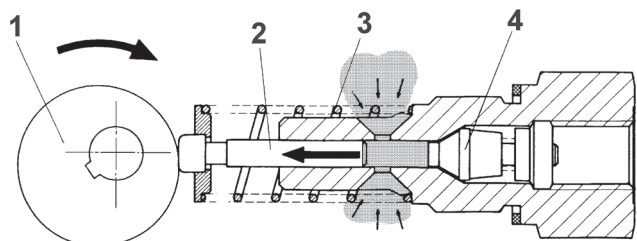

Fig. 13
The pump element (Fig. 13 and 14) is a single stroke spring biased pump. Motor drives the eccentric (1). Eccentric is in constant contact with the plunger (2).